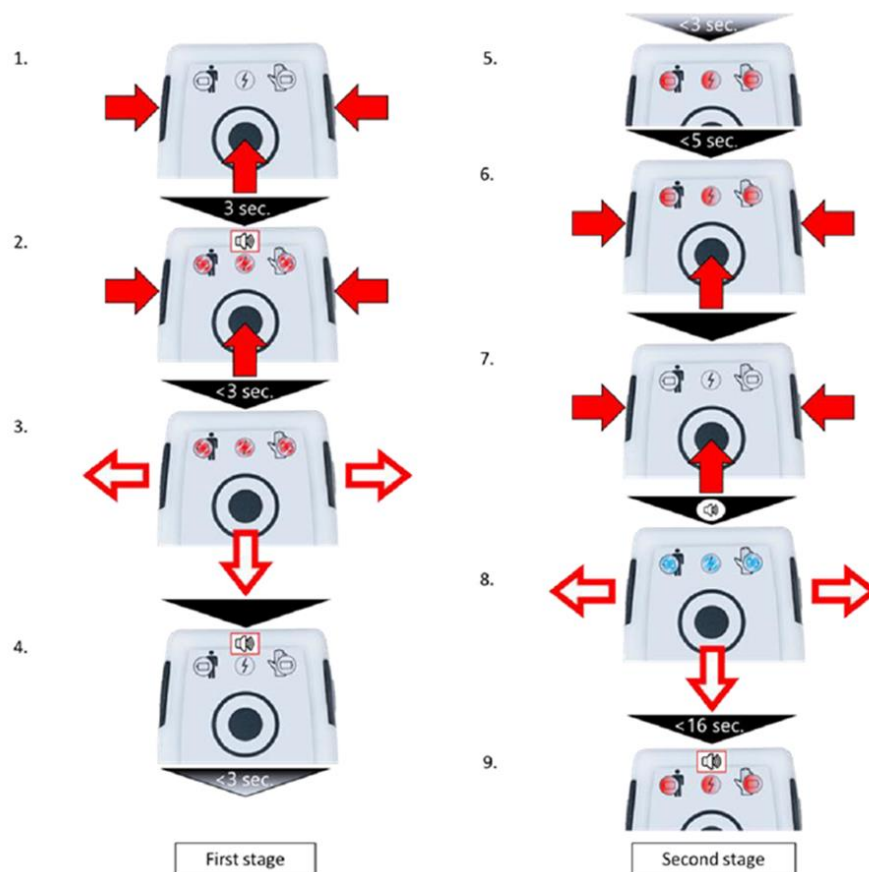
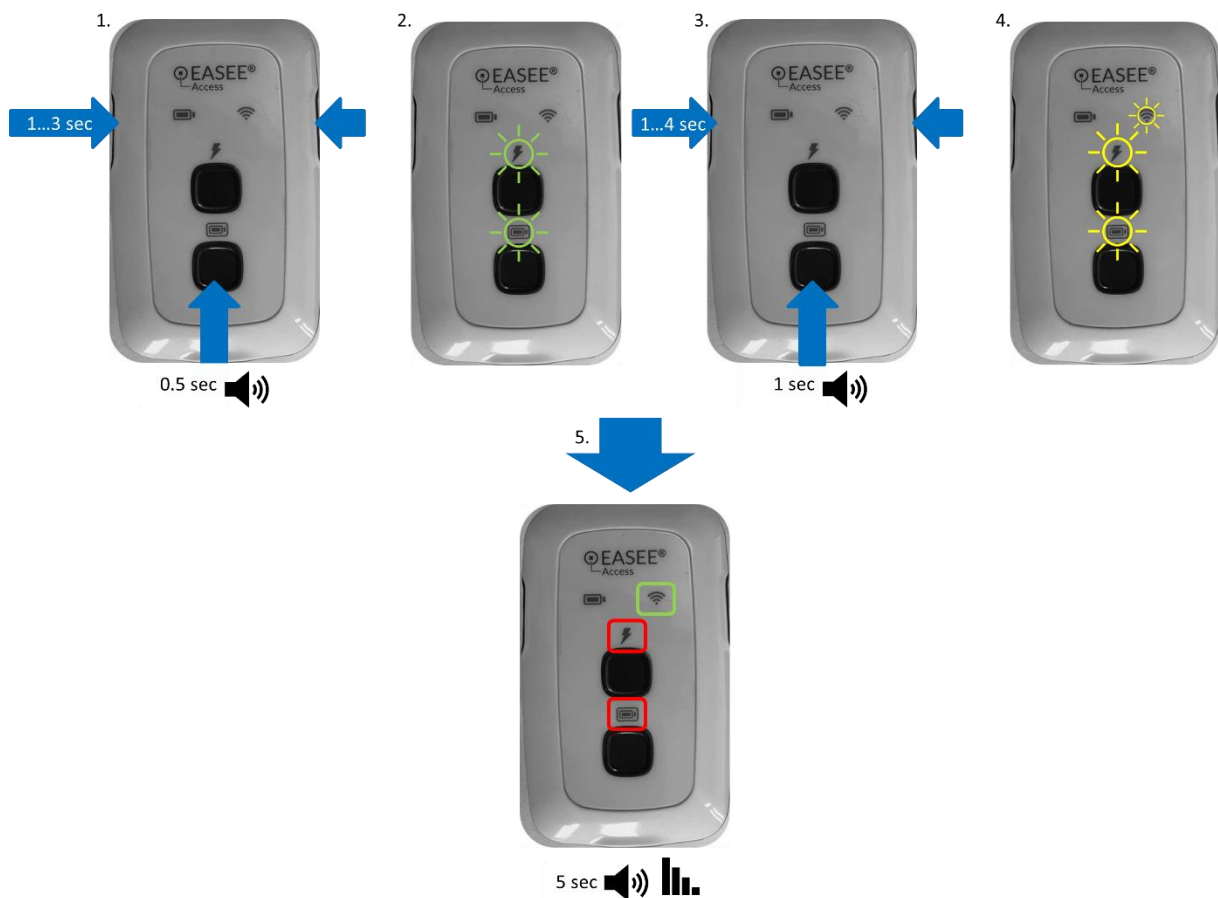

Figure 1 Sequence of commands for turning EASEE® Power off (using EAAC00).
Figure 2 Sequence of commands for turning EASEE® Power off (using EAAC01).
- In case your treating neurologist is not present: Please use your patient controller EASEE® Access to turn off the implant (see Figure 1 and Figure 2 on page 9 and 10).